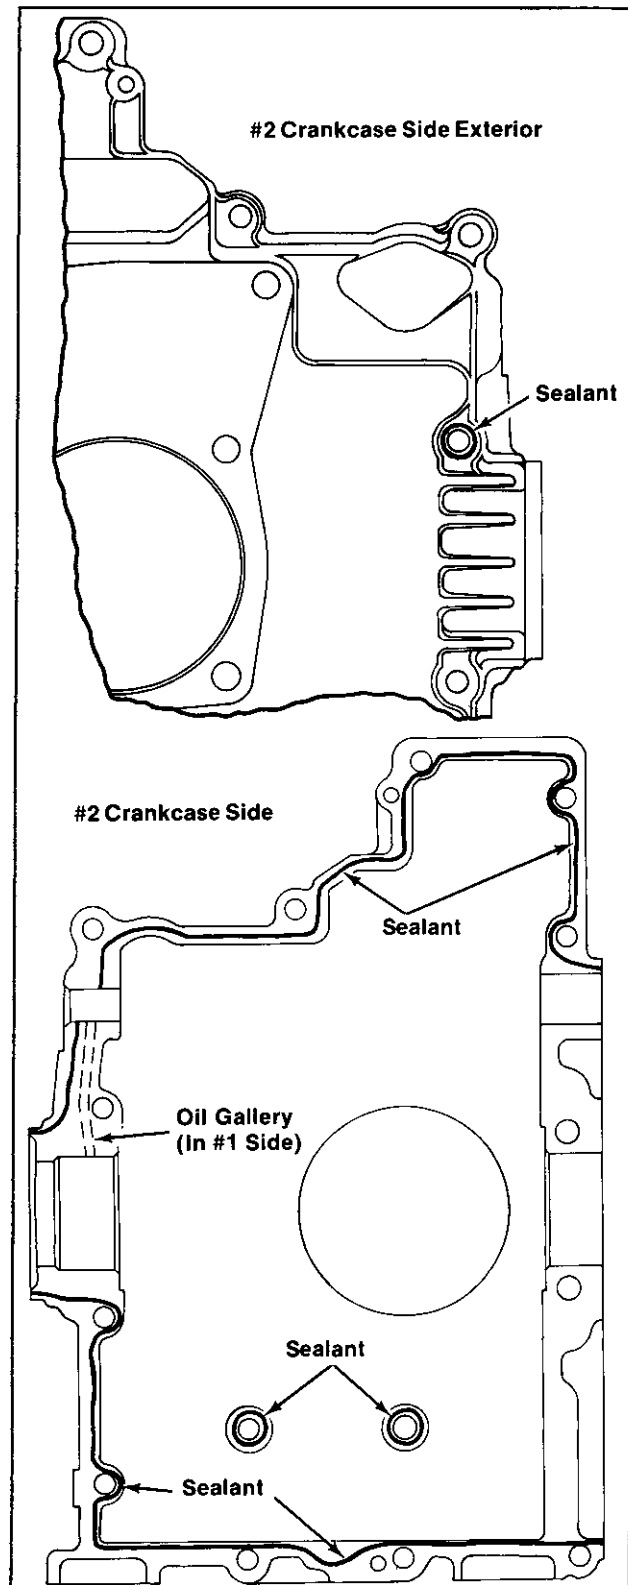

Figure 11-18. Crankcase Sealant Pattern.
2. Apply a  $1/16$ " bead of sealant to the #2 crankcase side as shown in Figure 11-18. Follow the sealant manufacturer's recommendations regarding "setting." Recommended sealants are listed below.